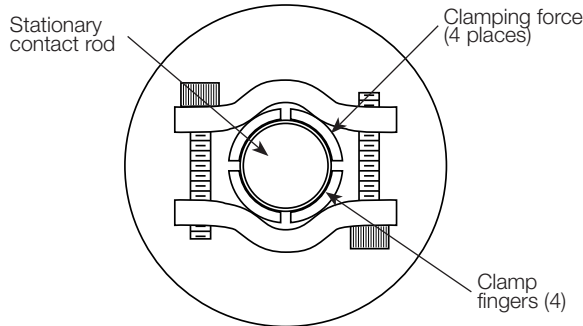

Figure 6. Positioning of lower interrupter clamp
11. Position lower clamp, so force will be applied to the center of each clamp finger, see Figure 6. Tighten upper and lower clamp hardware to 75 lbs-in (8.5 Nm).